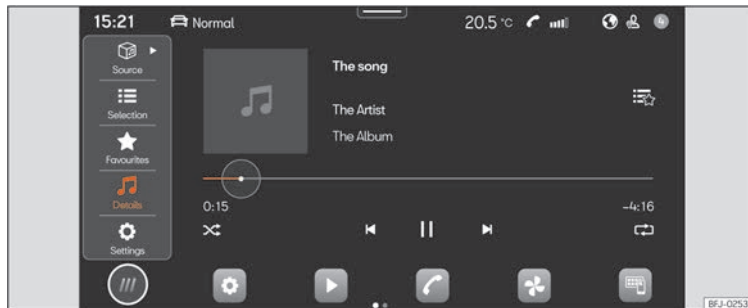

Fig. 161 Schematic diagram: Media view
- Press **HOME** > ► >>> **Fig. 161**.